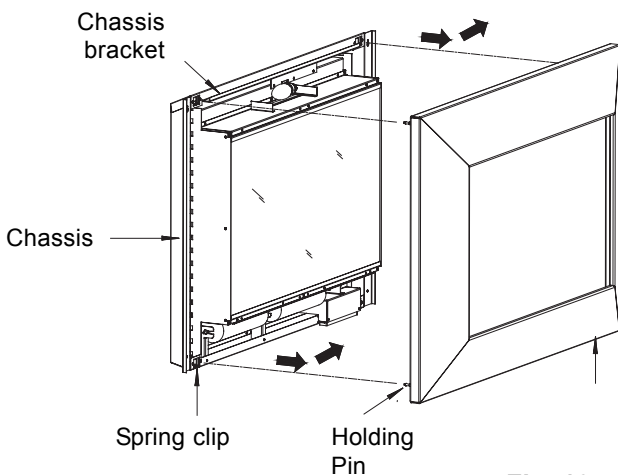

Fig. 10
When the bottom holding pins are undone, carefully pull forwards at the top until the top pins detach and then lift the surround up and out (see Fig. 10).
2. Place the surround on the chassis bracket and align the pins with the spring slots. Make sure the surround is the correct way up with the cut out for switches at the bottom (see Fig 10).